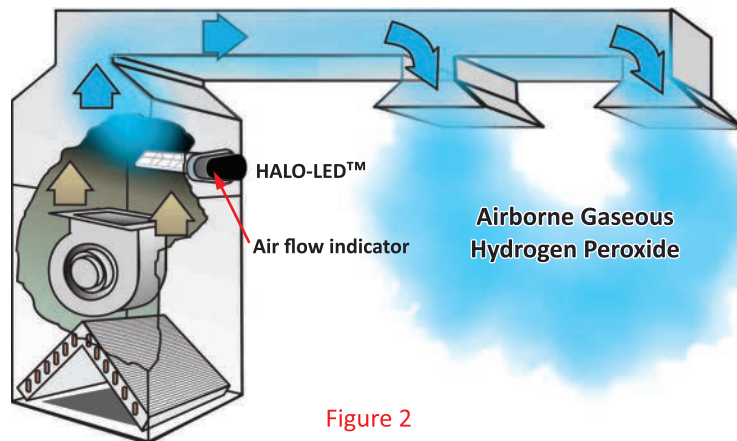

Figure 2
- To maximize the effectiveness of the HALO-LED™, it is recommended, whenever possible, to install the HALO-LED™ unit in the air plenum just after the air handling unit (supply side). Refer to Figure 2.